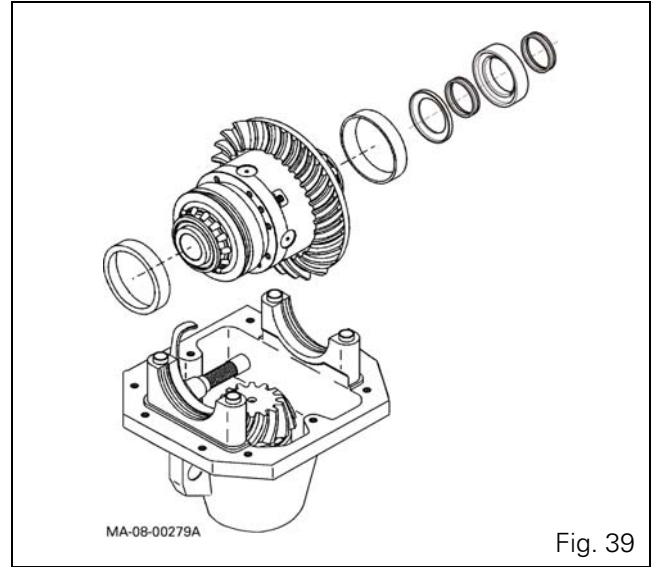

Fig. 39
44. Fit the external taper roller bearing cups on the two differential bearings and install, on the bevel gear side, the washer and spacer with new O’rings previously smeared with a thin layer of grease (Fig. 39).